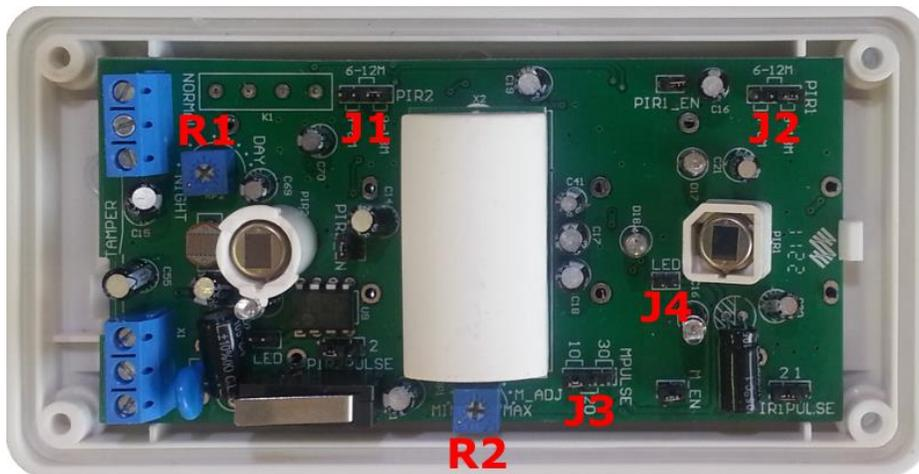

Figure 4
5. Separate the front cover to reveal the sensor circuit board (Fig. 4):
The following steps are **only** necessary if you wish to reduce the motion sensor's sensitivity due to false positive activation or to respond only to larger targets. It may be helpful to enable the alarm LEDs (disabled for power conservation by default) when testing sensitivity changes by closing J4 (Fig. 4). LED colors correspond to the following sensor states: Green = top and / or bottom PIRs, Yellow = Microwave, Red = Both top and bottom PIRs and microwave.
1. Move J1 and J2 (Fig. 4) to the desired sensitivity (Fig. 5). Factory default is for maximum sensitivity.
1. To adjust the microwave sensor's range, rotate R2 (Fig. 4) counterclockwise to decrease, and clockwise to increase (Fig. 6).
3. Move J3 (Fig. 4) to the desired sensitivity (Fig. 6). Factory default is for maximum sensitivity.
1. Adjust R1 (Fig. 4) to the desired hours of operation (Fig. 7). Factory default is for 24 hour operation.